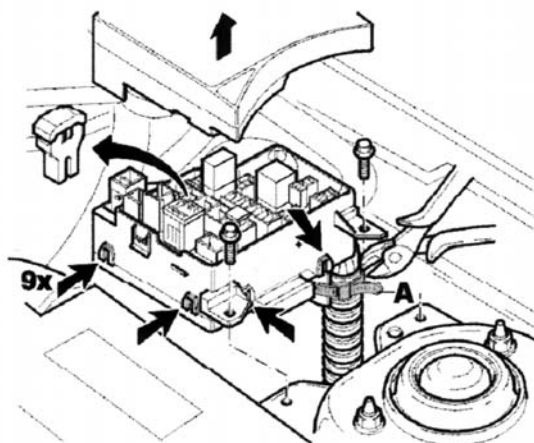

Fig. 2
- Open the fuse box and remove the 50 Ampere fuse for the ABS system (Fig. 2).
- Loosen the 2 retaining screws and lift the fuse box as far as possible. Take the lower cover off, remove the red cable of the ABS fuse and cut it off as far as possible before the insulation (Fig. 2).